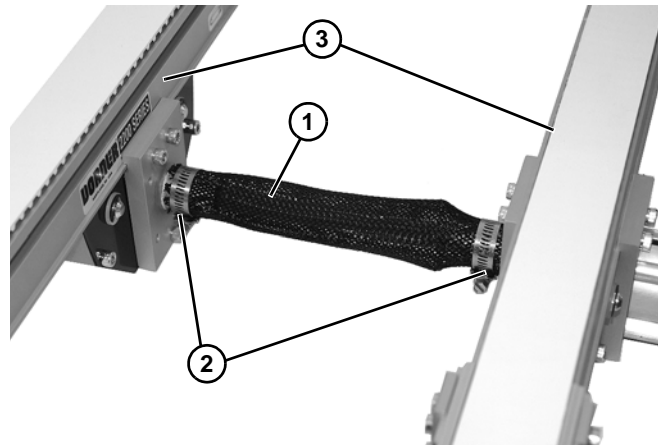

Figure 12
2. Install protective cover (**Figure 12, item 1**) and two clamps (**Figure 12, item 2**) onto shaft, and install assembly between conveyor sections (**Figure 12, item 3**).